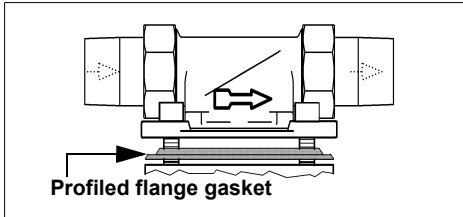

Fig. 3: Built-in rotary flange
**The built-in rotary flange must be installed in the direction of flow. This is marked by a cast in arrow (see fig. 3).**
The section of the profiled flange gasket must point towards the built-in rotary flange (see fig. 3). Failure to observe this can lead to leaks and water escaping. This can in turn cause water damage to the house and its installations.